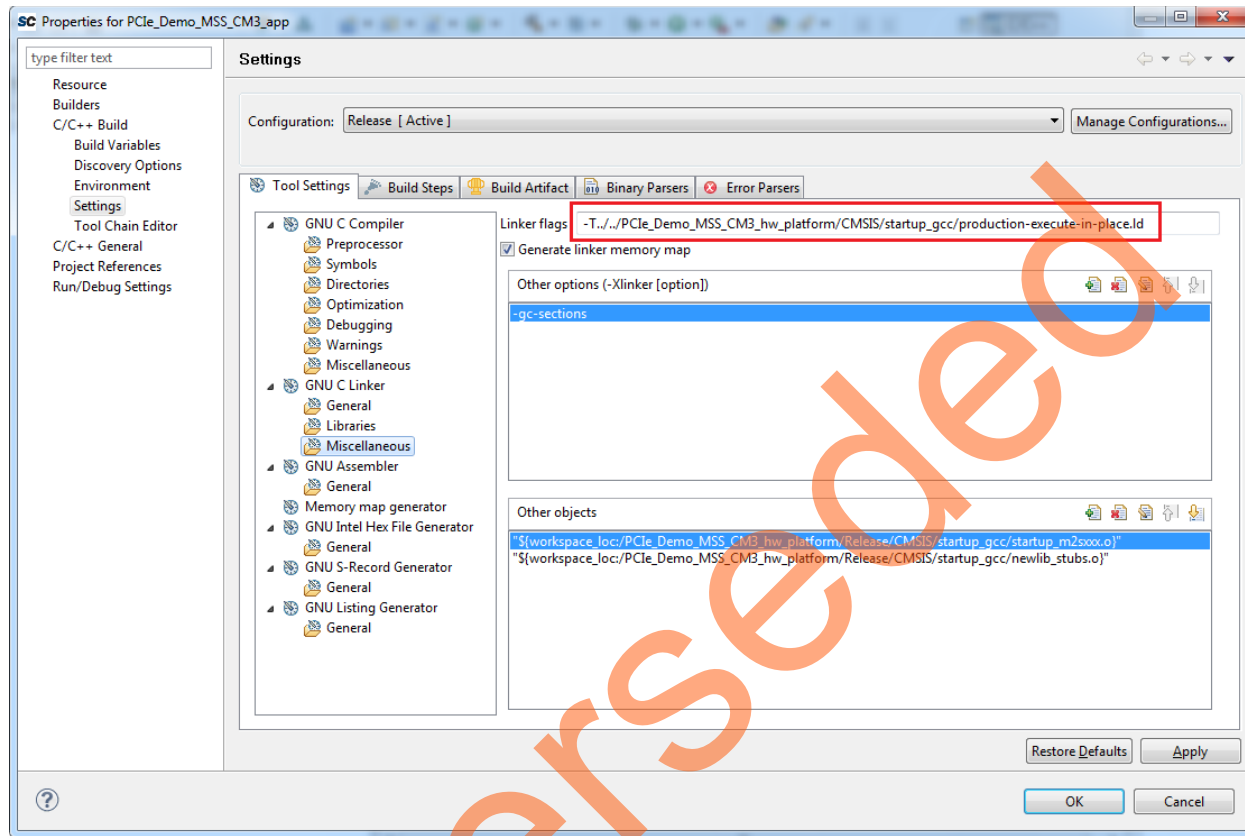

Figure 34 • LD File Option
8. Select **Miscellaneous** and provide the release mode linker script file to the linker by changing the 'Linker flags' field to `“-T././PCle_Demo_MSS_CM3_hw_platform/CMSIS/startup_gcc/production-execute-in-place.ld”` as shown in Figure 34.